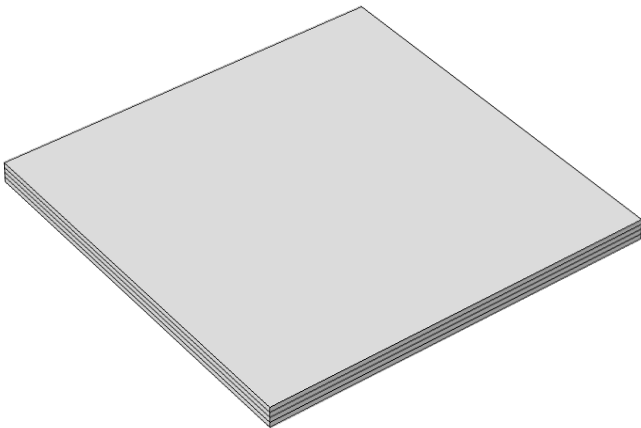

Figure 1: Geometry of layered shell with ply orientations 90/-45/45/0 from top to bottom.
-45/45/0) is subjected to an in-plane axial tensile load. The actual geometry of the laminate is shown in Figure 1.